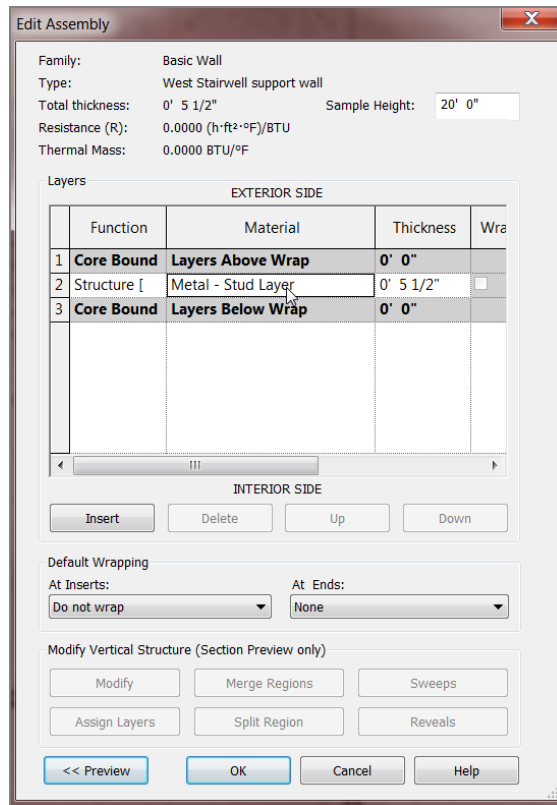

FIGURE 16.1: Changing the structure to a 5 1/2" (140mm) metal stud
8. Click into the Material cell for the Structure row, as shown in Figure 16.1.
11. Change the thickness to 5 1/2" (140mm) (see Figure 16.1).